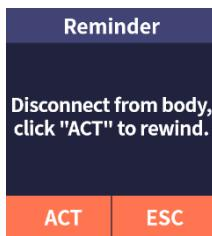

Figure 11.1
(1) Disconnect from body (as shown in Figure 11.1). Click "ACT" to rewind the push rod and the user can continue to replace the pump, or click "ESC" to return to the "More" interface.